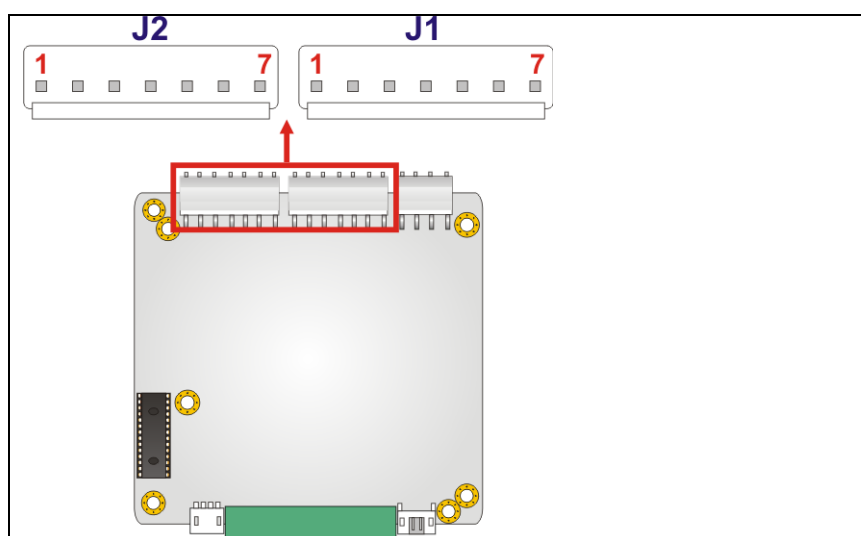

Figure 4-3: Battery Connector Locations
- CN Location:** See Figure 4-3